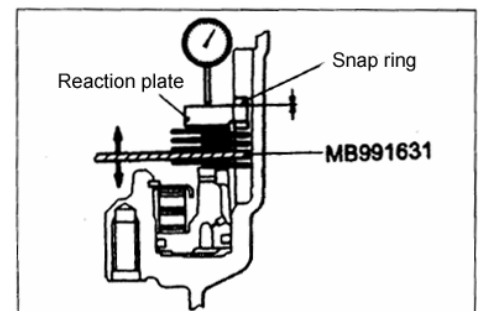

Fig 11A-62
play, and then replace the snap ring installed in step (7) to adjust the end play to standard value. See Fig. 11A-62.